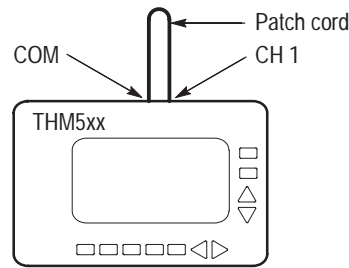

Figure 5: Trace shift test setup
2. Use a patch cord to short the COM and CH 1 inputs as shown in Figure 5.